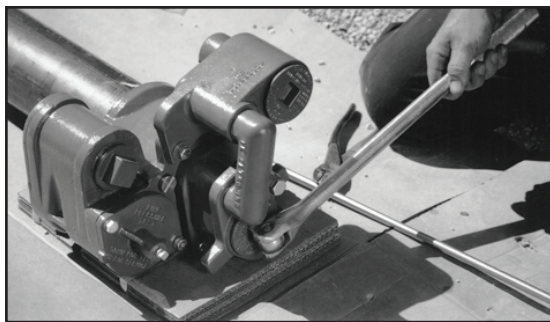

Figure 13: Tighten Discharge Head Cover
25. Tighten the discharge head cover (from hardware pack p/n 400301XXX) in place using a 3/4" ratchet or breaker bar (Figure 13).